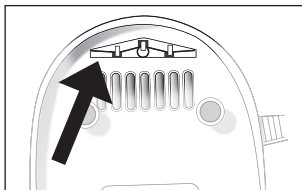

Fig. 1
1. Locate the small spring pin on the underside of the unit, Fig. 1. Use a non-metal tool to pop the pin out.